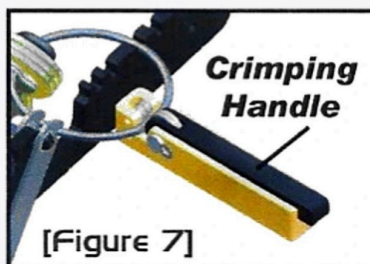

FIGURE 7
- 9 Push the handle down into the tool body (figure 7) and swing the tool back and forth at least three times over about 120° (figure 8).